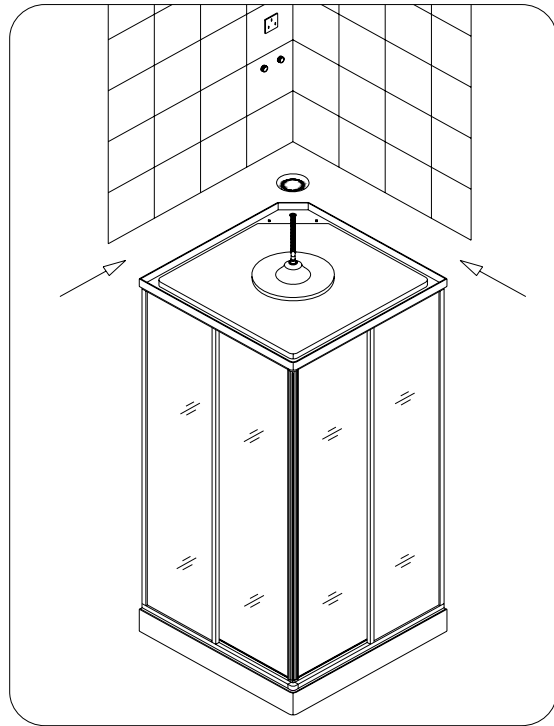

Fig. 14
15. Move the shower cabin assembly to the required position. Fig 14.